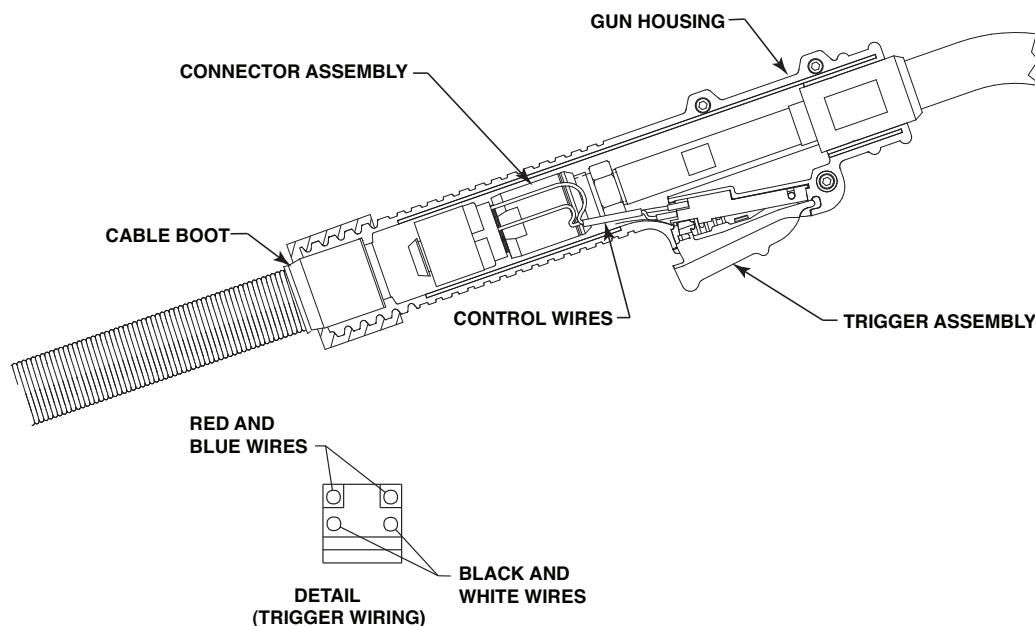

Figure E.4
Pull the cut-off lead terminals off the trigger assembly and connect the replacement control lead terminals. (See Figure E.4).
- k) Assemble cable in left side of gun handle. Assemble trigger into the proper handle cavity. (For DP also assemble the rocker switch in the grooves provided in the handle.) Assemble right side of gun handle and tighten the screws that hold the handle together. (See Figures E.4 and E.5).